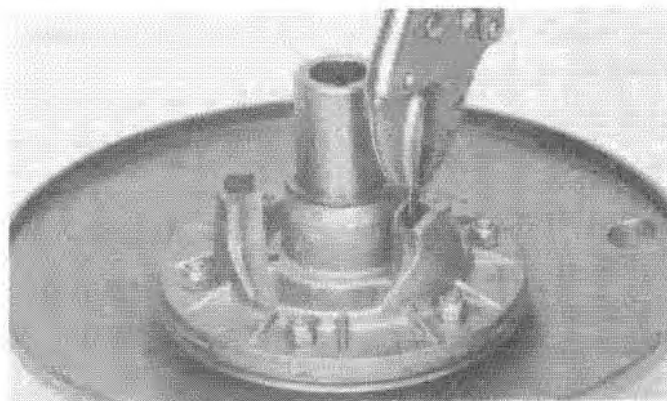

Fig. 11-Replace Insert Button Shank
12. Replace broken insert buttons as follows: Clamp a pop rivet steel shank (do not use aluminum shank) securely with vice grips and heat end red hot with a hand torch. Push steel shank into center of broken insert button shank, Fig. 11. Allow steel shank to cool slightly and remove insert button shank.